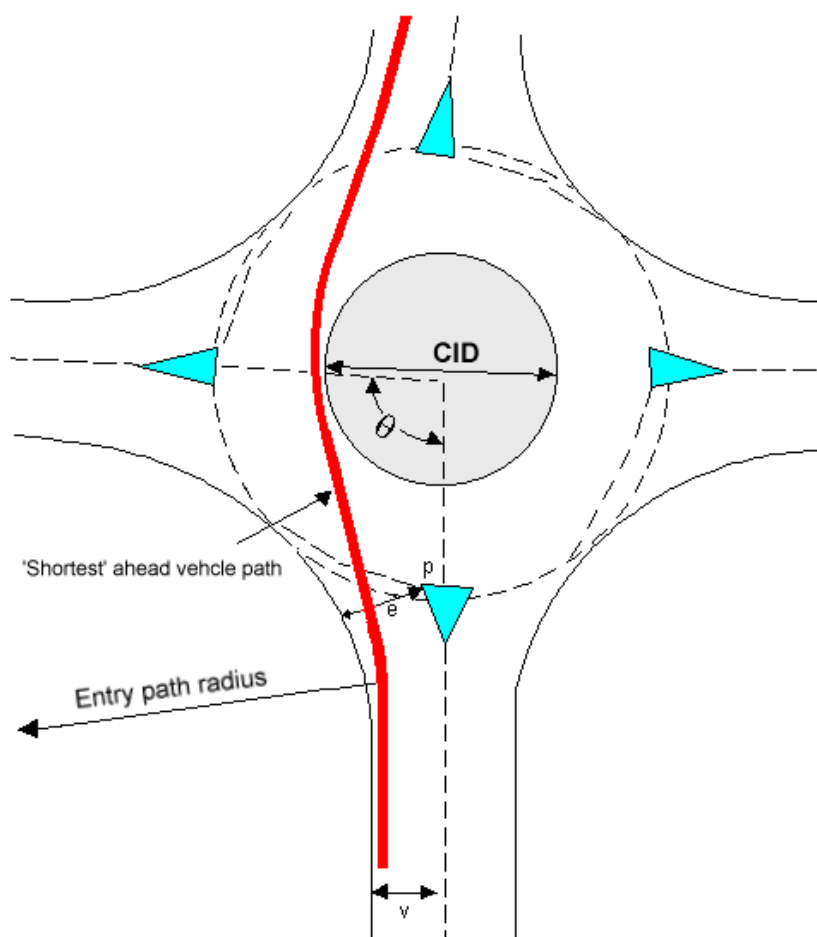

Figure 26-1
keeping on its own side of the road but otherwise ignoring lane markings. The heavy line in Figure 26-1 represents the locus of one such path.
Normally the path is assumed to start 1 metre from the nearside kerbline (as in Figure 26-1), but it may also start 1 metre from the carriageway dividing line or kerbline of a central reserve, or anywhere between these two points.
Angle between arms: The angle between the approach arm and the next arm is the angle subtended by projections of the relevant approach centre lines as shown in Figure 26-1. If the approaches are curved then the tangents to the centre line at the entry points (P) are used for this construction.